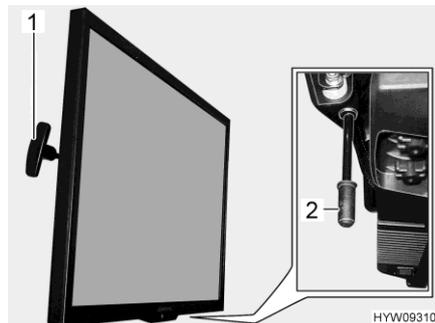

Fig. 92 Flat screen
- Pull and hold handle (Fig. 92,1). The flat screen is unlocked.
- Pull down the handle (Fig. 92,2) and hold it there. The flat screen is unlocked.